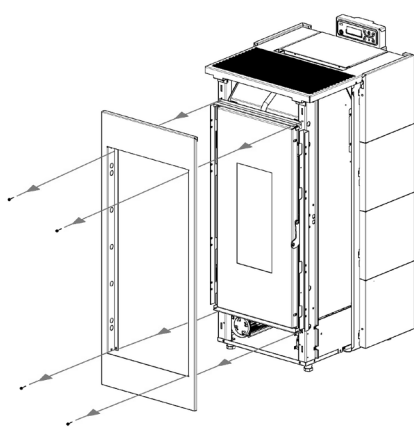

Fig. 37 - Remove the front panel
- Remove the front panel: loosen the 4 screws (see **Fig. 37**).